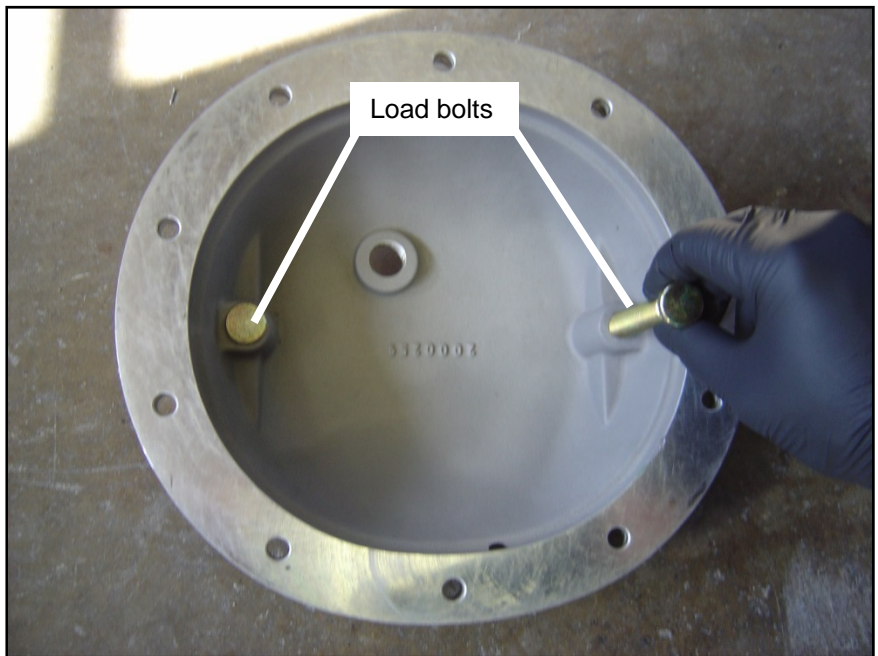

Figure 3
STEP 10. Install the supplied load bolts in each boss from the inside of the B&M Cast Aluminum Differential Cover until they bottom out (See Figure 3 & 4).